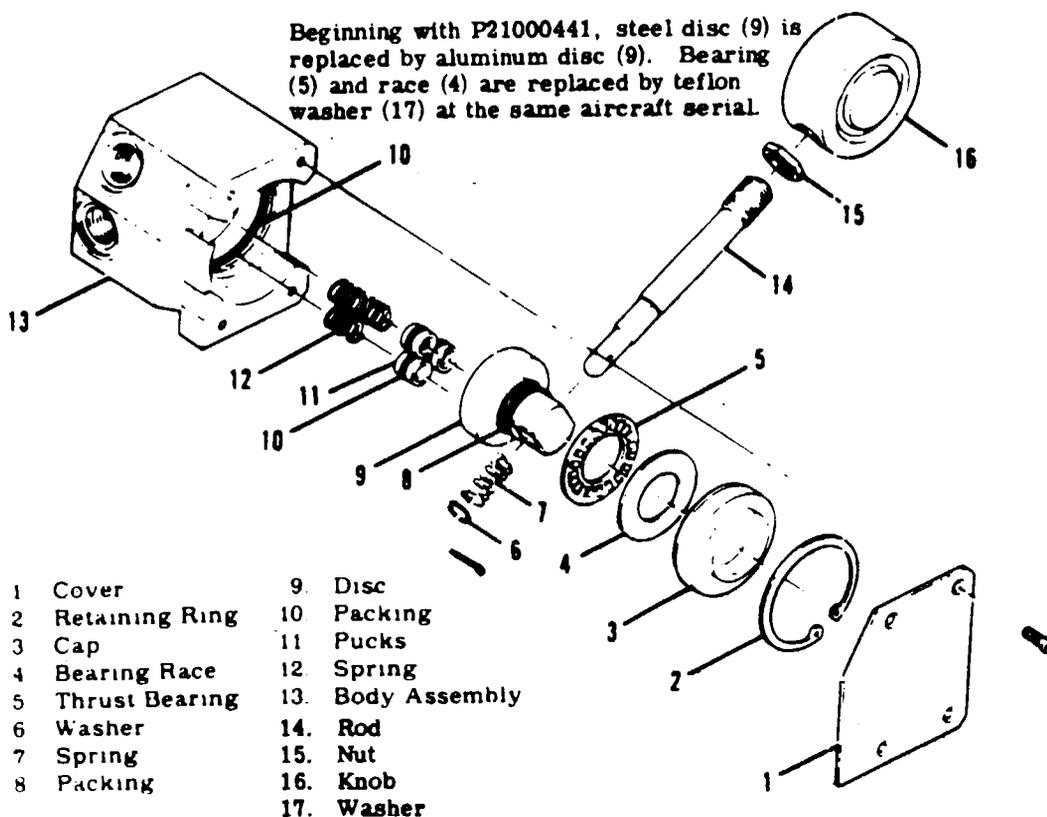

Figure 5A-7. Landing Gear Position Selector Valve
to figure 5A-7.)
- a. Remove cover (1), retaining ring (2) and cap (3). Thru P21000440, remove race (4) and bearing (5). Beginning with P21000441, remove washer (17).
- b. Remove cotter pin, washer (6) and spring (7).
- c. Pull rod (14) from disc (9); remove disc.
- d. Remove packs (11) and springs (12).
5A-35. INSPECTION AND REPAIR. (Refer to figure 5A-7.) Replace packings (8) and (10). Check valve for wear, foreign or abrasive materials. Disc (9) may be refaced (lapped) if worn or abraded. Check rollers in bearings (5).
5A-36. RIGGING THROTTLE-OPERATED GEAR WARNING HORN MICRO-SWITCH. (Refer to figure 5A-8.) Rigging procedures for sea level or turbo-charged aircraft are outlined in figure 5A-8.)